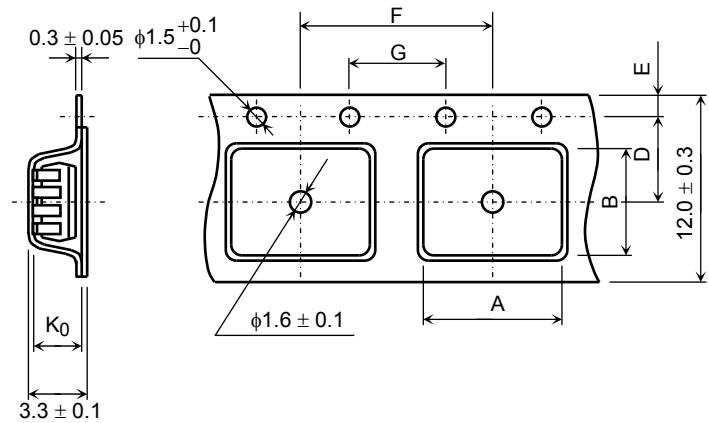

Figure 2 Tape Forms
- (1) Tape material: Plastic (protection against electrostatics)
- (2) Dimensions: The tape dimensions are as shown in Figure 2 and table 2.